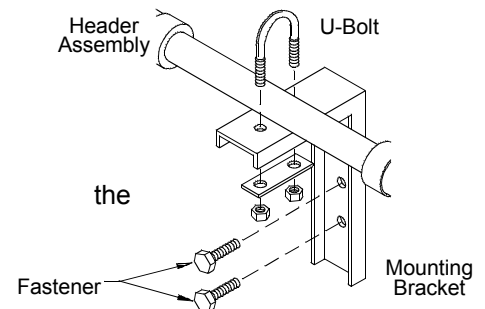

FIGURE 4
6. Mark the mounting holes and install fasteners suitable for the type of wall construction. (Figure 4)
8. Mark the mounting holes and install fasteners suitable for the type of wall construction. (Figure 4)
12. Mark the mounting hole and install fasteners suitable for the type of wall construction. (Figure 4)